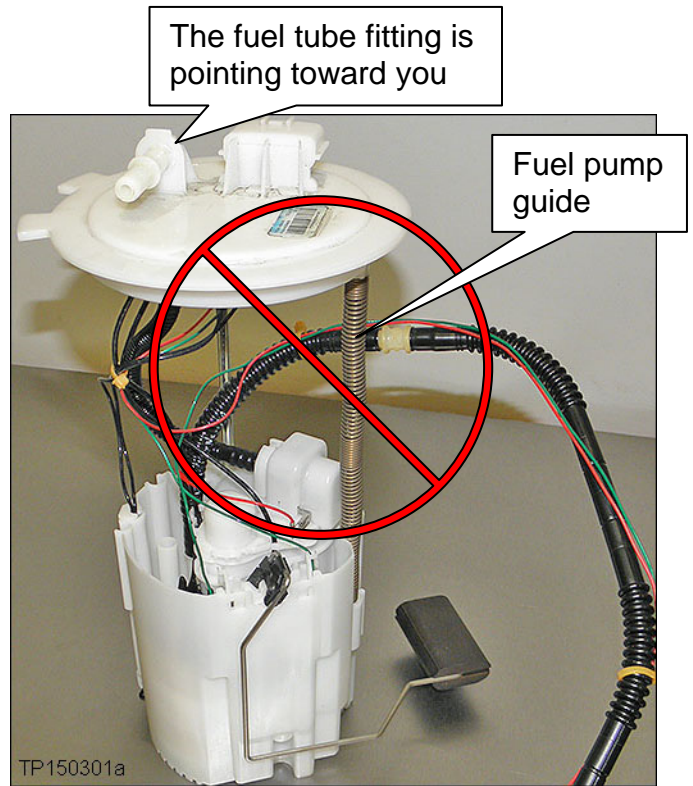

Figure 12
- When the new fuel pump is removed from the box you may find the fuel tube routed as shown in Figure 12.